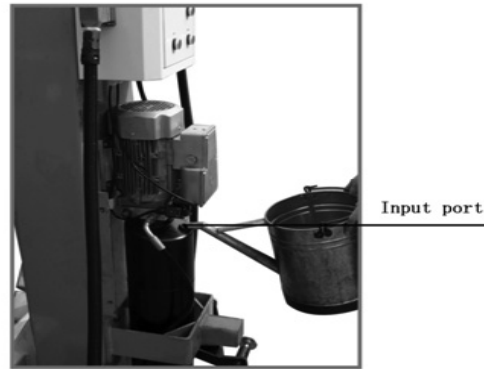

Fig.1
7. Please select high quality hydraulic oil as diagram 1, fill at least 12 litres of the hydraulic oil into the oil tank, but don't fill too much, in case the oil might overflow after being pressed. (see Fig.1) After the first 100 hours' work, it is necessary to change the hydraulic oil and recharge it every 3000 working hours correspondingly.